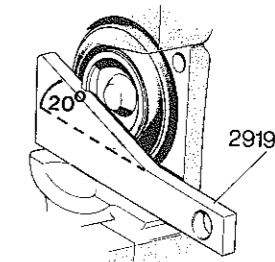

Fig. 9.9 Using a template (Volvo tool 2919) to determine the correct position of the rear caliper piston stop (Sec 13)
- 3 Pay attention to the position of the step on the piston (photo). It should be at a 20° angle to the lower surface of the caliper (see Fig. 9.9).